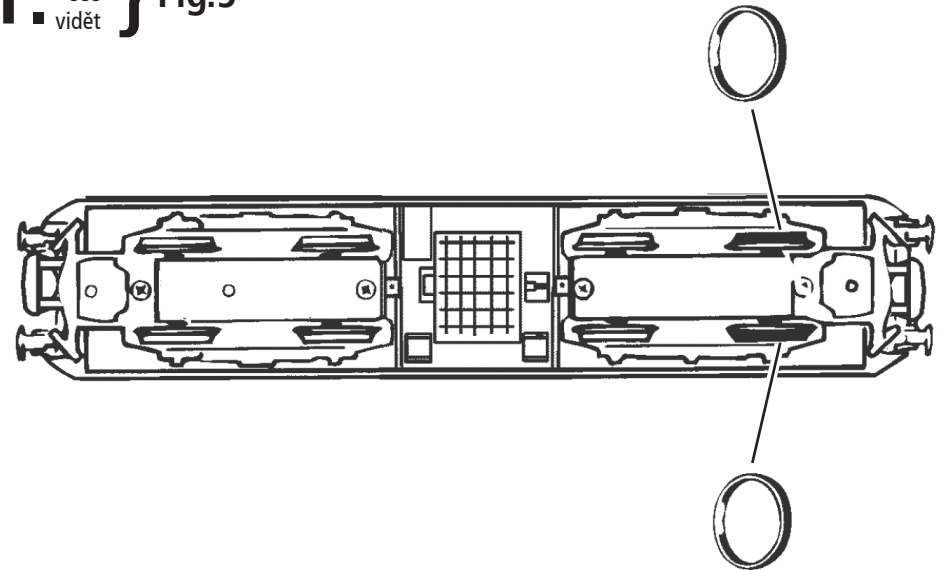

Fig. 1
**Unwrap model:** Take out the model cautiously with foil (fig. 1).